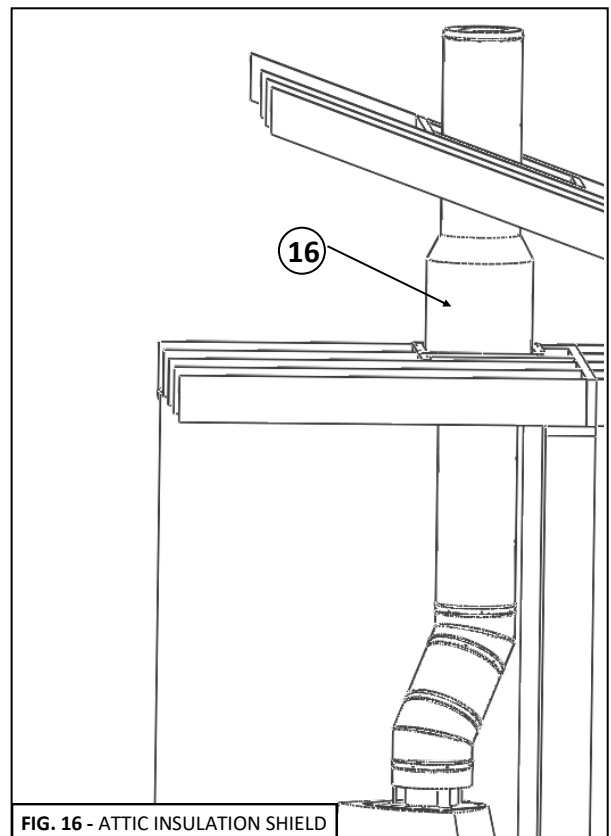

FIG. 16 - ATTIC INSULATION SHIELD
17) STRAIGHT CHIMNEY SECTIONS – Before running the straight chimney through the roof, determine the placement of required Firestop Spacers. If a Firestop will be installed against the ceiling, then before installing any straight chimney sections, first slide the Firestop Spacer (shown in FIG. 16) down over the Return Elbow. Now, snap the remaining Straight Chimney sections into place. Lock chimney sections together by pushing downward until the top section meets the stop bead on the lower section.